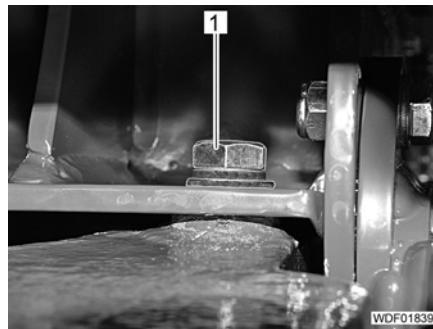

Fig. 461 Fastening of the rear weight (front)
- Unscrew 2 bolts (Fig. 461,1).
- Screw in 2 bolts (Fig. 461,1) with washers and spring washers, but do not tighten.